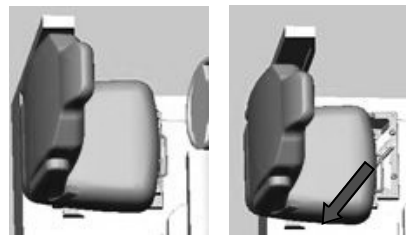

FIG 2.
4. Pull the seat until it stops. The seat moves diagonally toward the center of the vehicle when pulled (FIG 2.). When stopped, the seat is now ready to swivel.